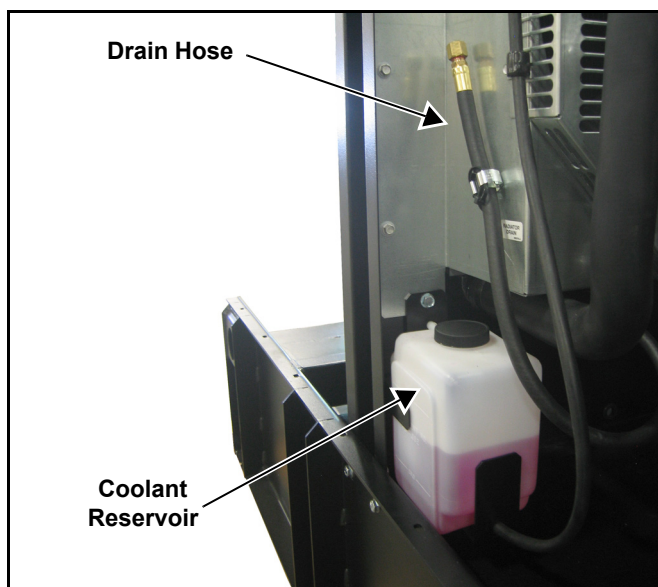

Figure 5-9. Coolant Overflow Reservoir and Drain Hose
1. Verify that the coolant level is between the HOT and COLD marks on the overflow reservoir. See Figure 5-9.